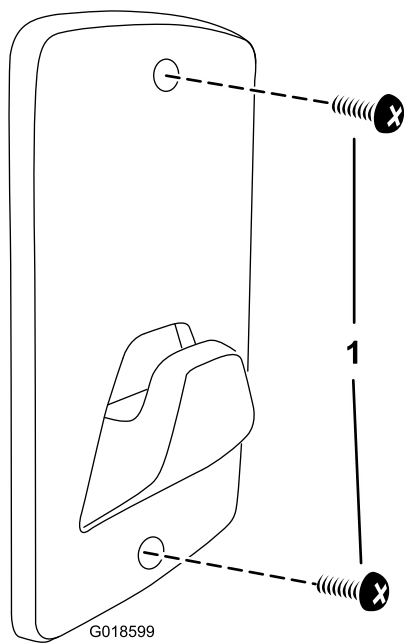

Figure 1
- Install the screws (Figure 1).